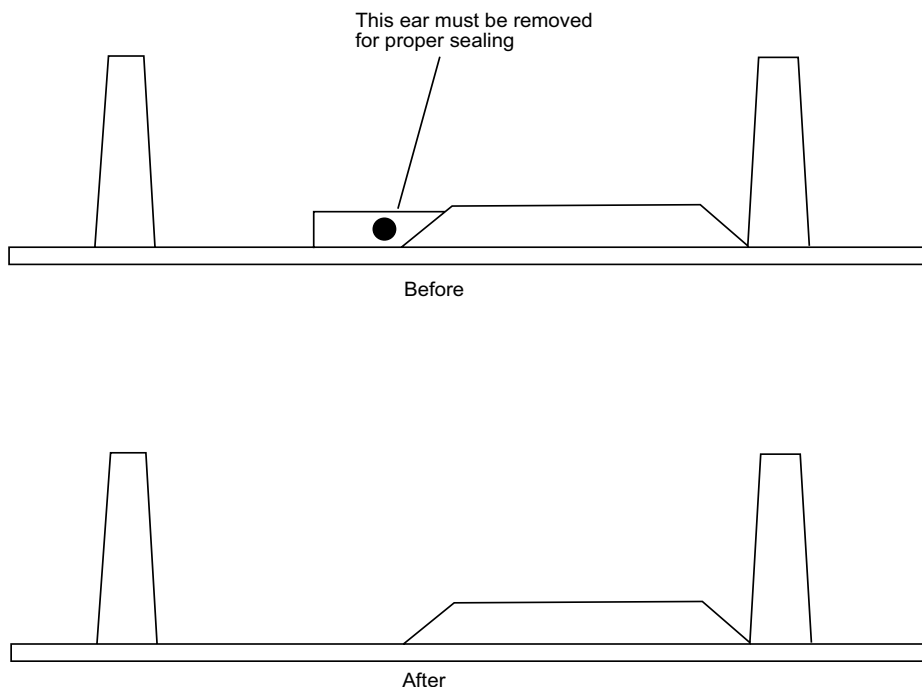

Fig. 1
2. Use a die grinder or a file and remove the small “ear” on the base plate. (Fig. 1)